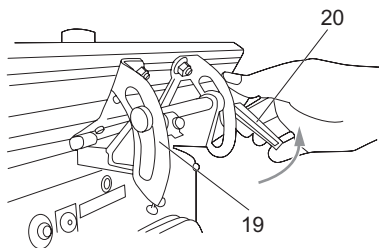

Fig. 12
- > Turn the fence angle locking handle (20) anticlockwise to loosen. (Fig. 12)
- > Use the angle guide (19) and the angle pointer to set the fence at the desired angle. (Fig. 12)